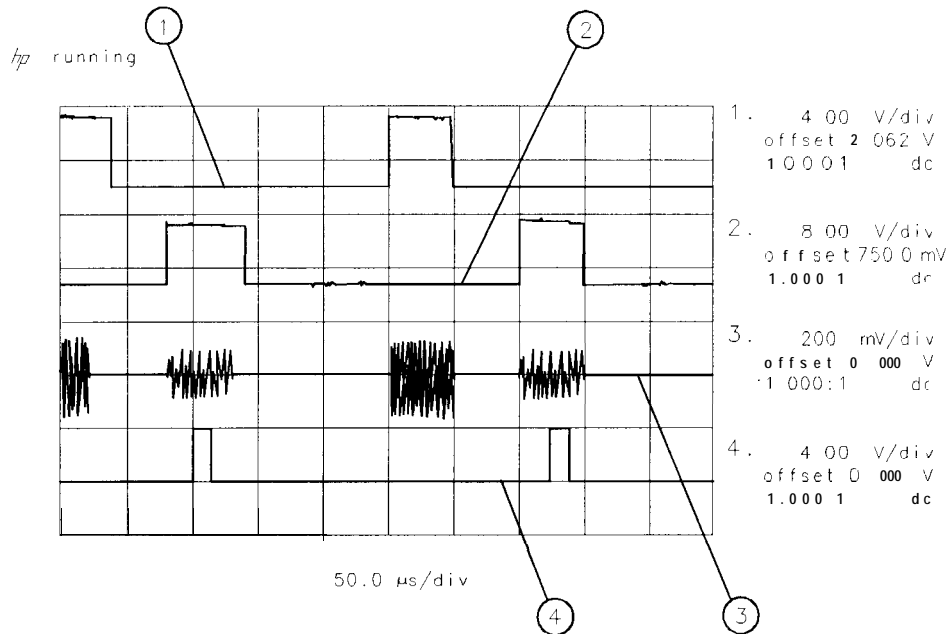

Figure 4-26. Placing the Gate Output During the Second Signal
- To view the second signal, change the gate delay so that the gate output is under the second signal. Since the second signal had a signal delay of approximately $85 \mu\text{s}$, we set the gate delay to $85 \mu\text{s}$ plus the pulse width/2, or $110 \mu\text{s}$. Press **[SWEEP]**, Gate Control , GATE DELAY 110 **[μs]** to set the gate delay to $110 \mu\text{s}$. Using an oscilloscope can be helpful in placing the gate output during the pulsed signal (see Figure 4-26).
Item	Description of Items in Figure 4-26